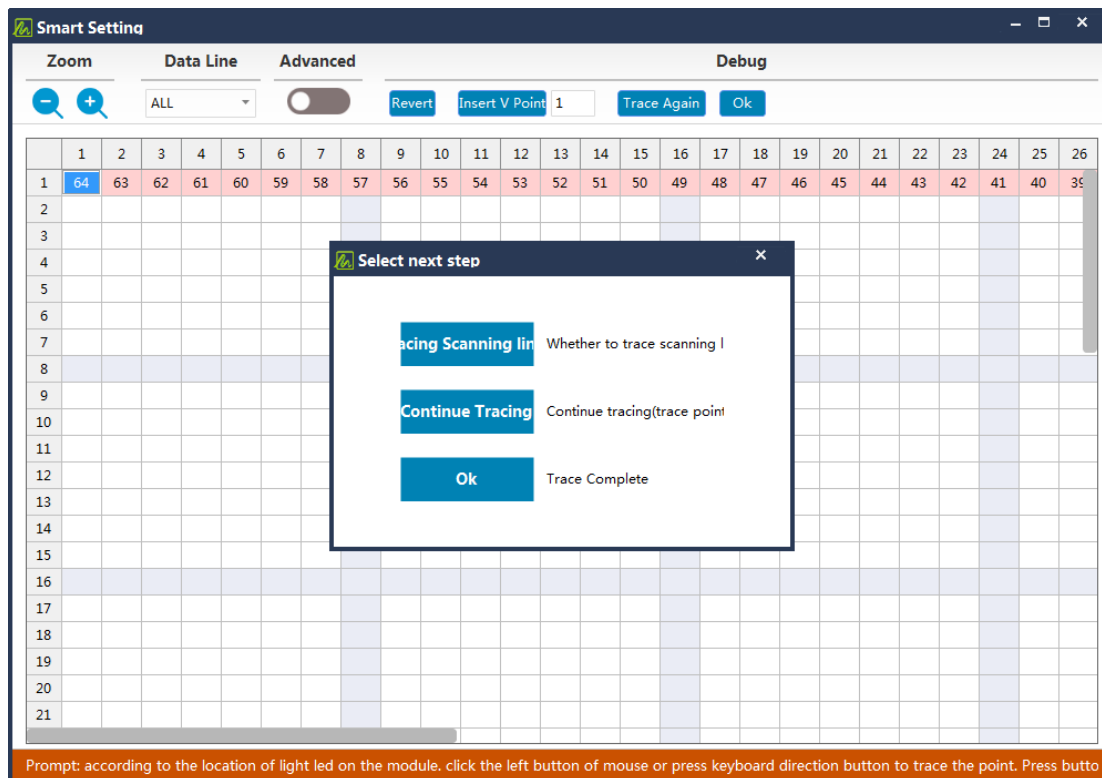

Figure 4-2-4 Normal Mode-Trace Complete
(4) Click “Next” to get to “Smart Setting” Interface. To trace the pixels according to actual display of the current module (If the module has no pixel flicker, please connect the LED module to the first data port of the receiving card or change the data line to all ports, or try to insert a virtual dot.), After the smart setting is completed, a completion window will be prompted, click “OK”, then click the “Finish Trace” button, and click “OK” to send the data to the receiver card, as shown in Figure 4-2-4.